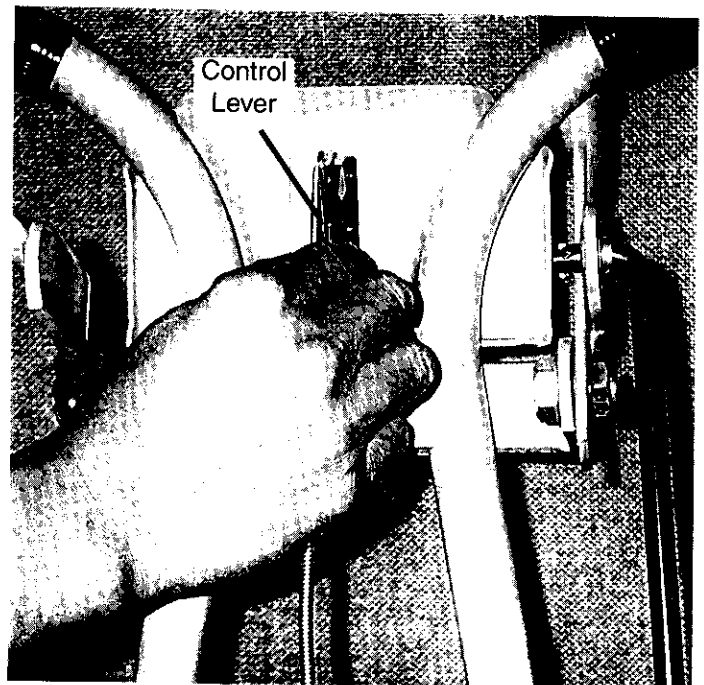

FIGURE 8: Twist lever so knob will pass through slot in panel.
3. See Fig. 8: Hold the control lever at the end of the throttle cable and twist it slightly so the knob will pass through the slot in the upper handle.